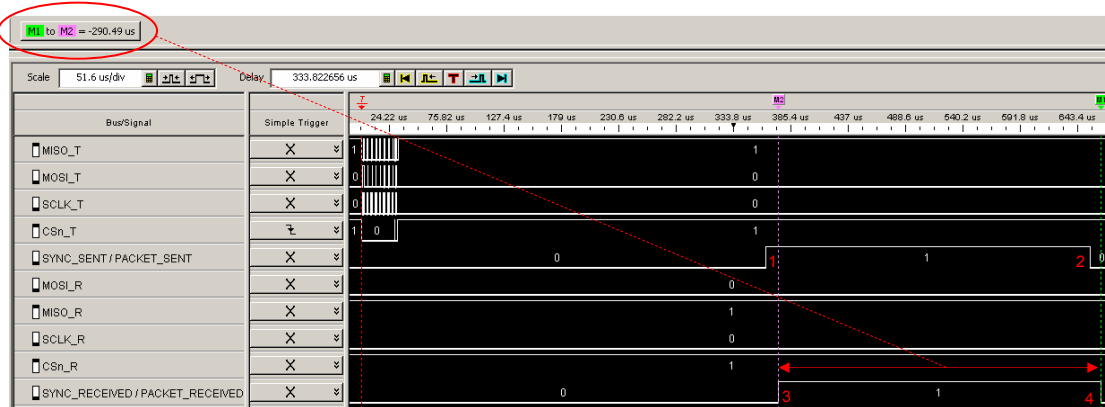

Figure 3. Error Free RX (IOCFGx = 0x06)
Assume receiving the packet transmitted in 3.1.1. As seen in Figure 3, the GDOx signal on the receiver (SYNC RECEIVED / PACKET RECEIVED) is asserted (3) and de-asserted (4) just after the GDOx signal on the transmitter (SYNC SENT / PACKET SENT) is asserted (1) and de-asserted (2). The radio will be in the state determined by MCSM1.RXOFF_MODE after GDOx is de-asserted.